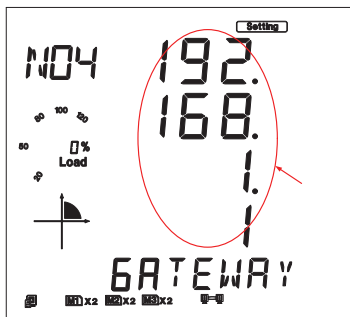

Fig 5-32
6. Set Gateway in the fourth setting page, such as 192.168.1.1. Press the "V/A" key to go to the setting page. Users may set the parameters pointed out in Fig 5-32. The cursor starts at the first digit. After setting the Gateway, press the "V/A" key to accept. Press the "P" key to go to the fifth setting page for DNS Primary Server.